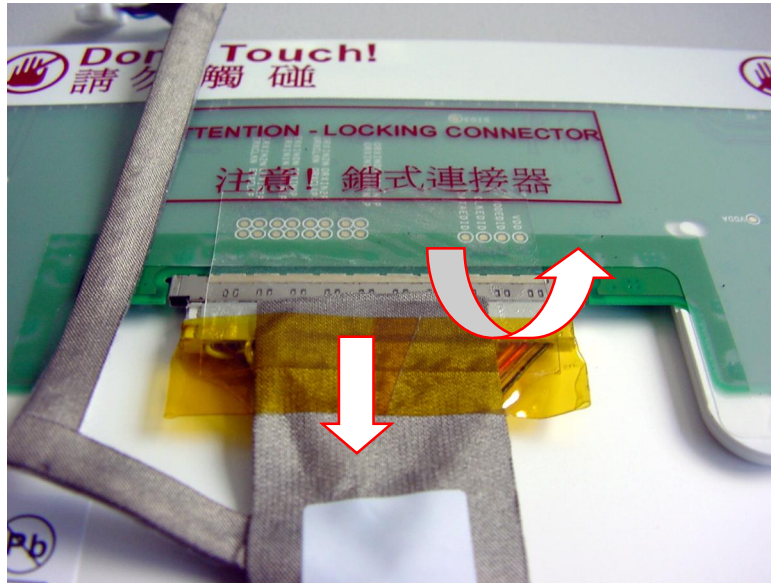

Fig. 43 Location of protective tape.
2. Disconnect the flexible LCD cable from the LCD panel (see Fig. 43).